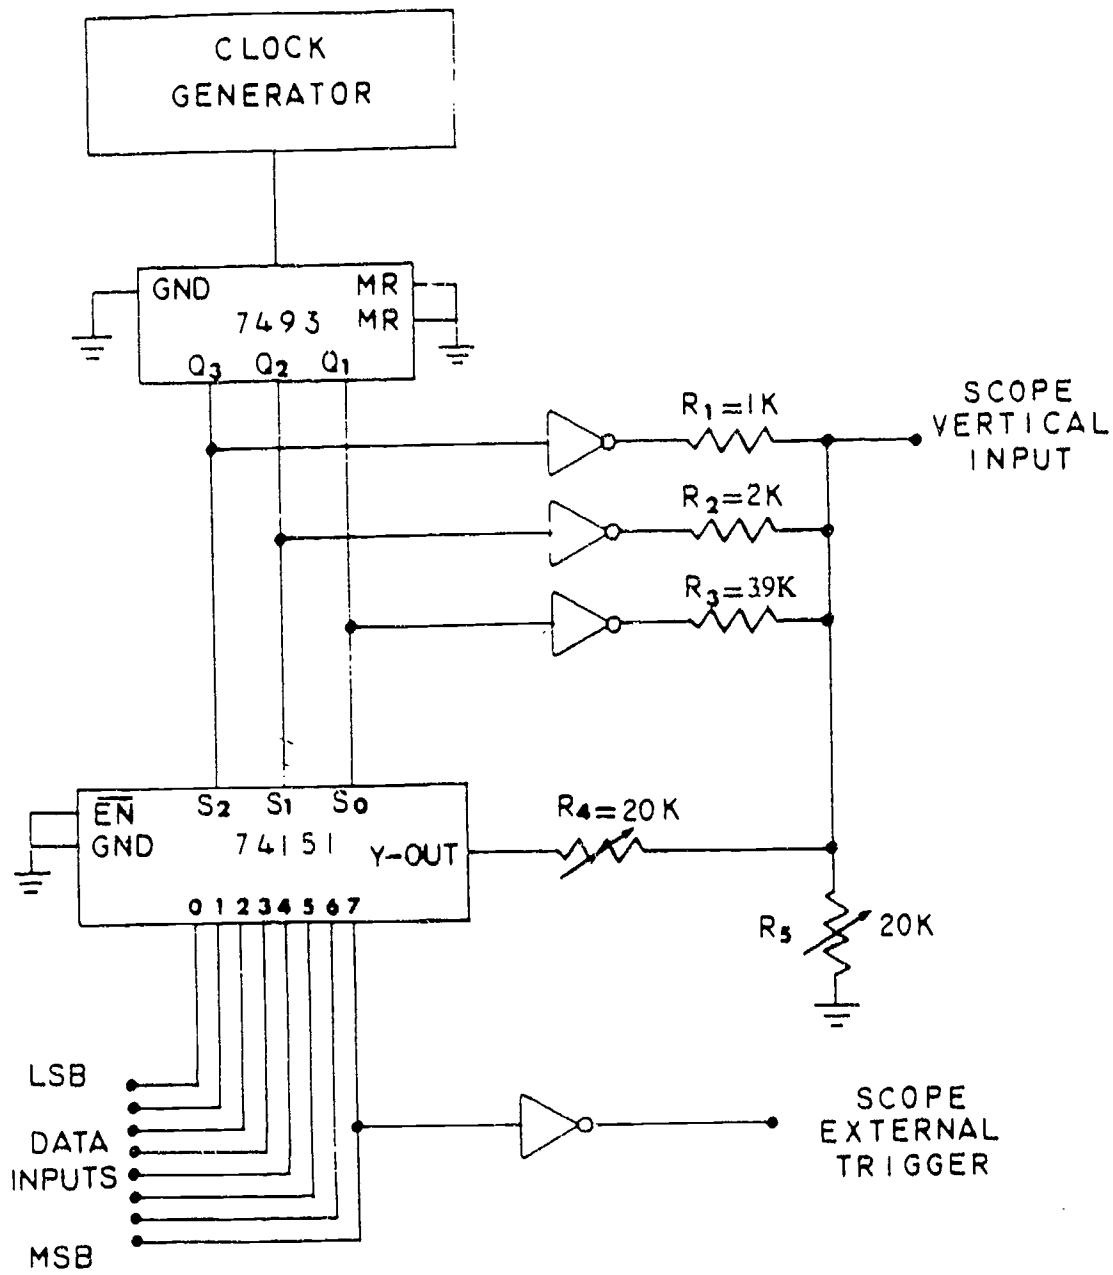

Figure 3
- C) R4 Fig. 3 to $8 \text{ K } \Omega$
- D) R5 Fig. 3 to $6.2 \text{ K } \Omega$